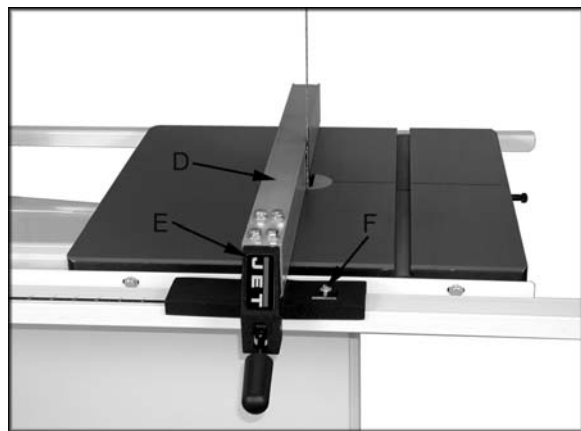

Figure 9
1. Attach the fence (D, Fig. 9) to the fence body (E, Fig. 9) with four 5/16" x 3/4" socket head cap screws, four 5/16" lock washers, and four 5/16" flat washers.
8. Check to see that the pointer (F, Fig. 9) is aligned with the zero marking on the guide rail. If adjustment is necessary loosen the screw that holds the pointer in place and line up to the zero mark. Tighten the screw.